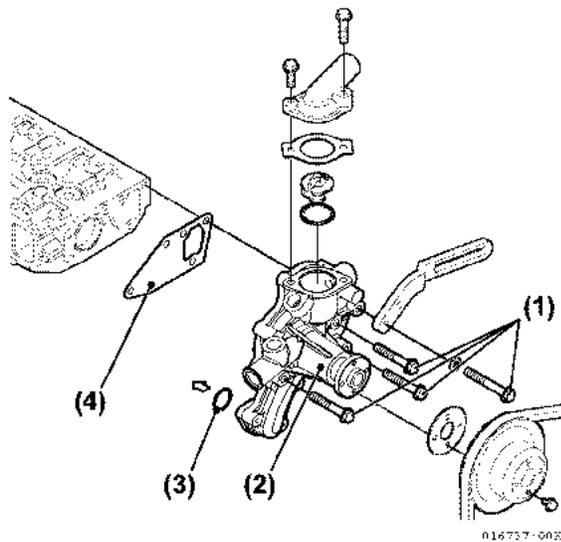

Figure 7-29
5. Remove four bolts (Figure 7-29, (1)) and remove coolant pump (Figure 7-29, (2)).
6. Remove the old gasket (Figure 7-29, (4)) and clean any material off from cylinder head.
7. Check new gasket (Figure 7-29, (4)) and new O-ring (Figure 7-29, (3)) fit on cylinder head and cylinder block before proceeding.